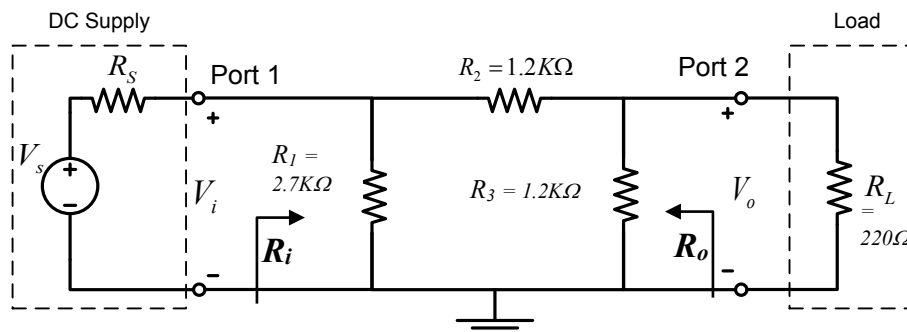

Fig. 3b: Passive Amplifier (an attenuator) with a DC Source and Load
3.1 Derive an expression (in terms of component names) for the input resistance (R_i) of the *Attenuator* in Fig. 3b. (show the steps) :
3.2 Derive an expression & also calculate the numerical value of the output resistance of the network in Fig. 3b (i.e., the resistance across port 2 looking towards the input, excluding R_L). *Note: For output resistance computations, we must set any input sources to zero, i.e., short circuit any input voltage sources and open circuit any input current sources (explain why?).*
3.3 Compute and draw the Thevenin equivalent circuit as seen by the load resistor for the network in Fig. 3b (In your calculations, use a value for $V_s = 5V$).
3.4 Derive an expression for the transfer function $A = V_o/V_i$ for the circuit of Fig. 3b:
- 4.1.2 Construct the circuit as shown in Fig. 3b, but do not yet connect the DC supply.
- 4.2.2 Turn on the DC power supply and set the variable output voltage to 5V. Check the voltage with the Multimeter. Connect the DC power supply to port 1, as shown in Fig. 3b (note that load is not connected yet, i.e., open circuit load conditions).
- 4.2.4 Connect a load 220 Ω resistor as shown in Fig. 3b. Measure the voltage at port 2.